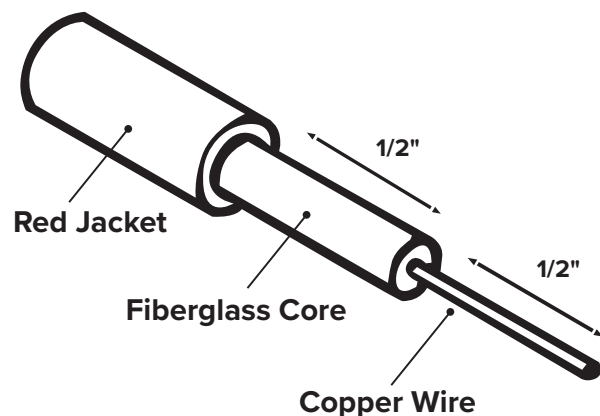

Fig. 1
2. Set drag brake to highest amount of drag (Fig. 1).
Drag Brake (Fig. 1)
2. Once jacket is removed, use pipe cutter again to score a mark around fiberglass core approximately 1" from edge of jacket. Use sharp knife to carefully strip away 1" of fiberglass core closest to rod end to expose copper wire. Be careful not to damage wire. The 1" portion of rod closest to jacket will remain intact (Fig.1).